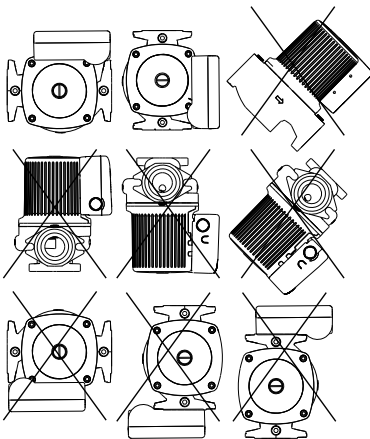
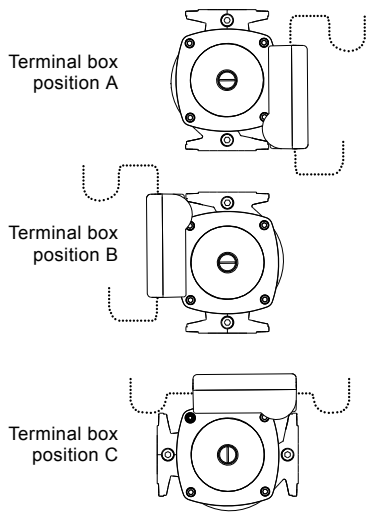

Fig. 1 Installation positions
Fig. 2 Acceptable terminal box positions
The arrows on the pump housing indicate the direction of water flow. The pump may be installed in vertical or horizontal piping, **but the motor shaft must always remain horizontal**, as shown in fig. 1.
There is not a drain hole directly below the terminal box; therefore the terminal box must be positioned in one of the positions shown in fig. 1 or fig. 2.
2. Carefully lift/slide the pump head out and away from the pump housing. Next rotate the pump head and locate the terminal box in the desired position. The terminal box can be rotated in steps of 90°. Review fig. 1 and fig. 2 for possible/permissible positions. **DO NOT** locate the terminal box beneath the pump.
10. Figure 2 shows acceptable terminal box positions along with recommended drip loops (dashed lines) in the electrical wiring harness based on entry point.
- An external "Drip Loop" is recommended in the electrical wiring harness; see fig. 2.